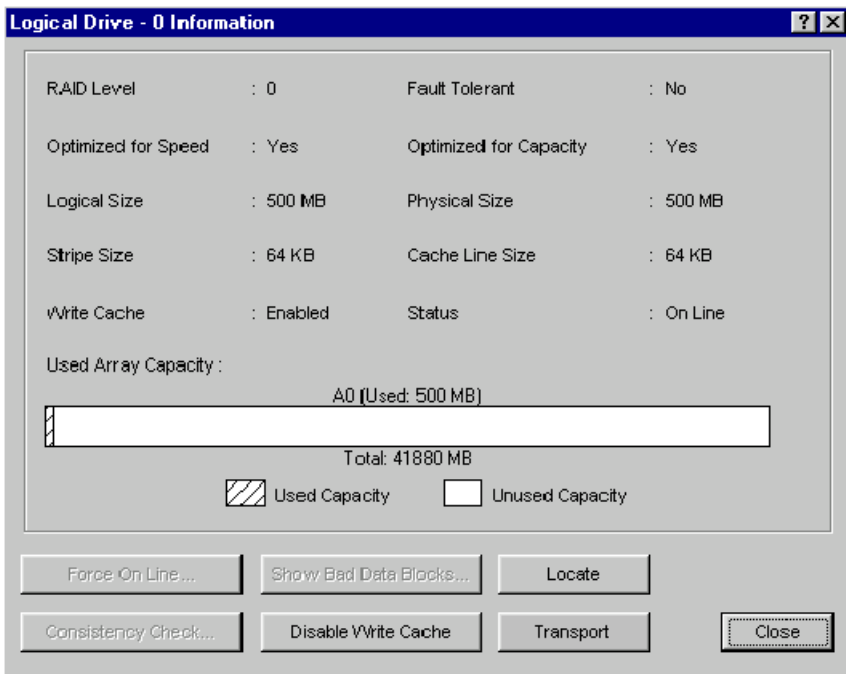

Figure 4-33. Logical Drive Information Window – Transport Button
2. The Logical Drive Information Window opens (see Figure 4-33).
Clicking the Locate button in the Logical Drive Information window (Figure 4-33) turns on LEDs on all of the physical drives belonging to the disk array excluding the global or dedicated hot spares.